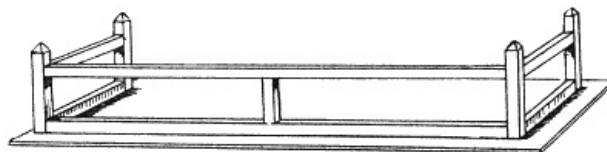

FIG. 31.
*A Doll's Fender* is another article of similar type. For this we require a cardboard or veneer base and a number of stales. The base is cut out so as to measure at the most 5 in. in length; 5 in. by 1-1/4 in. is a very suitable size. Now on three sides this will have a rail, constructed with stales alone. A pillar is required about 1/8 in. from each corner: this pillar should be about 3/4 in. high. Stretching from pillar to pillar and glued to the base will be three pieces—one a long one, approximately 4-1/2 in. long, and the other two short ones, about 3/4 in. in length. Above these, and not far below the tops of the pillars, will be fixed a parallel series of long and short rails, fixed into position with doll pins and glue. Very short pieces glued into an upright position between the two long parallel rails add to the stability of the structure and improve the appearance (Fig. 31). If you can stain the different pieces with black and brown to represent iron and copper, then a very effective representation of a fender will be obtained.